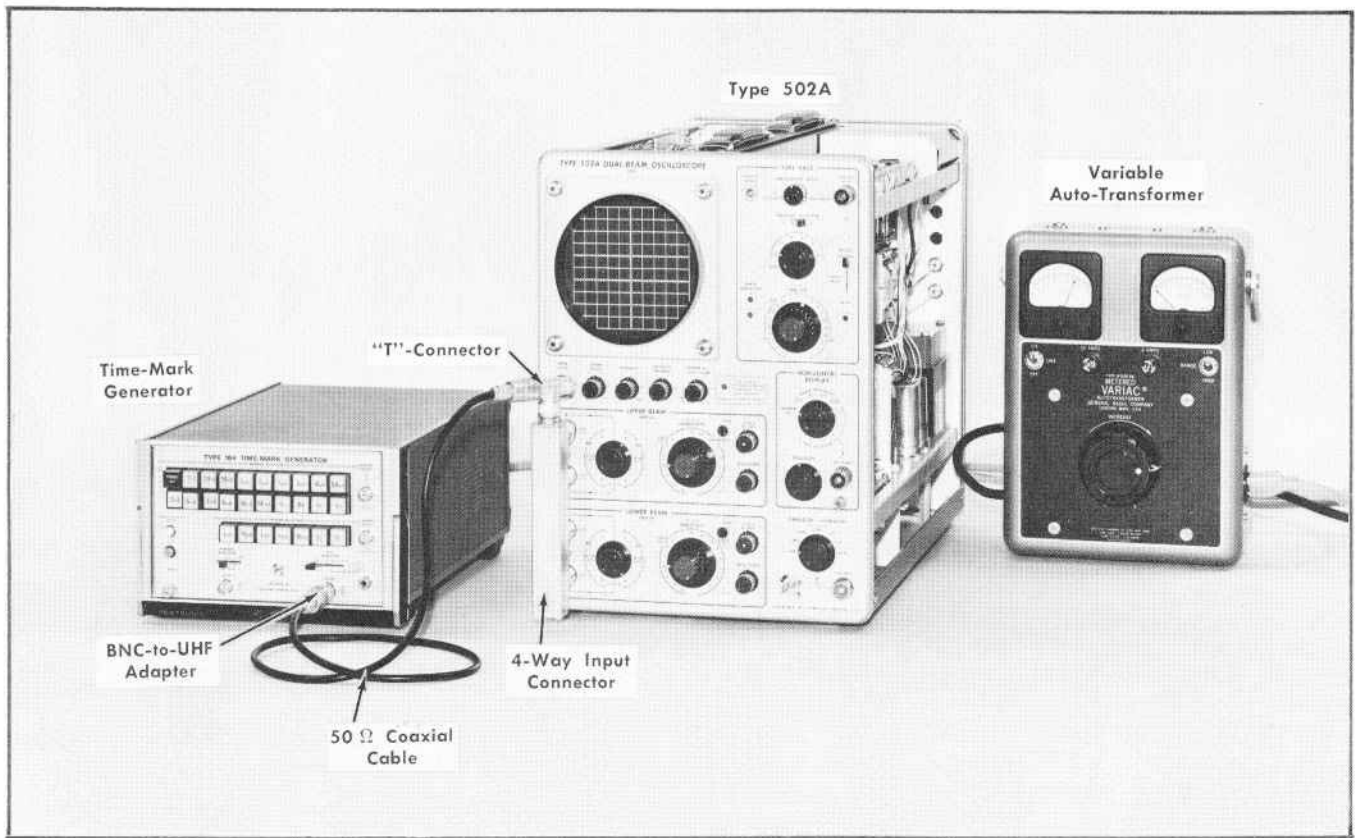

Fig. 6-7. Test equipment setup for steps 3 through 8.
- a. Connect the equipment as shown in Fig. 6-7. (Do not depress any of the time-mark switches at this time.)
a. Set up the equipment as shown in Fig. 6-7.